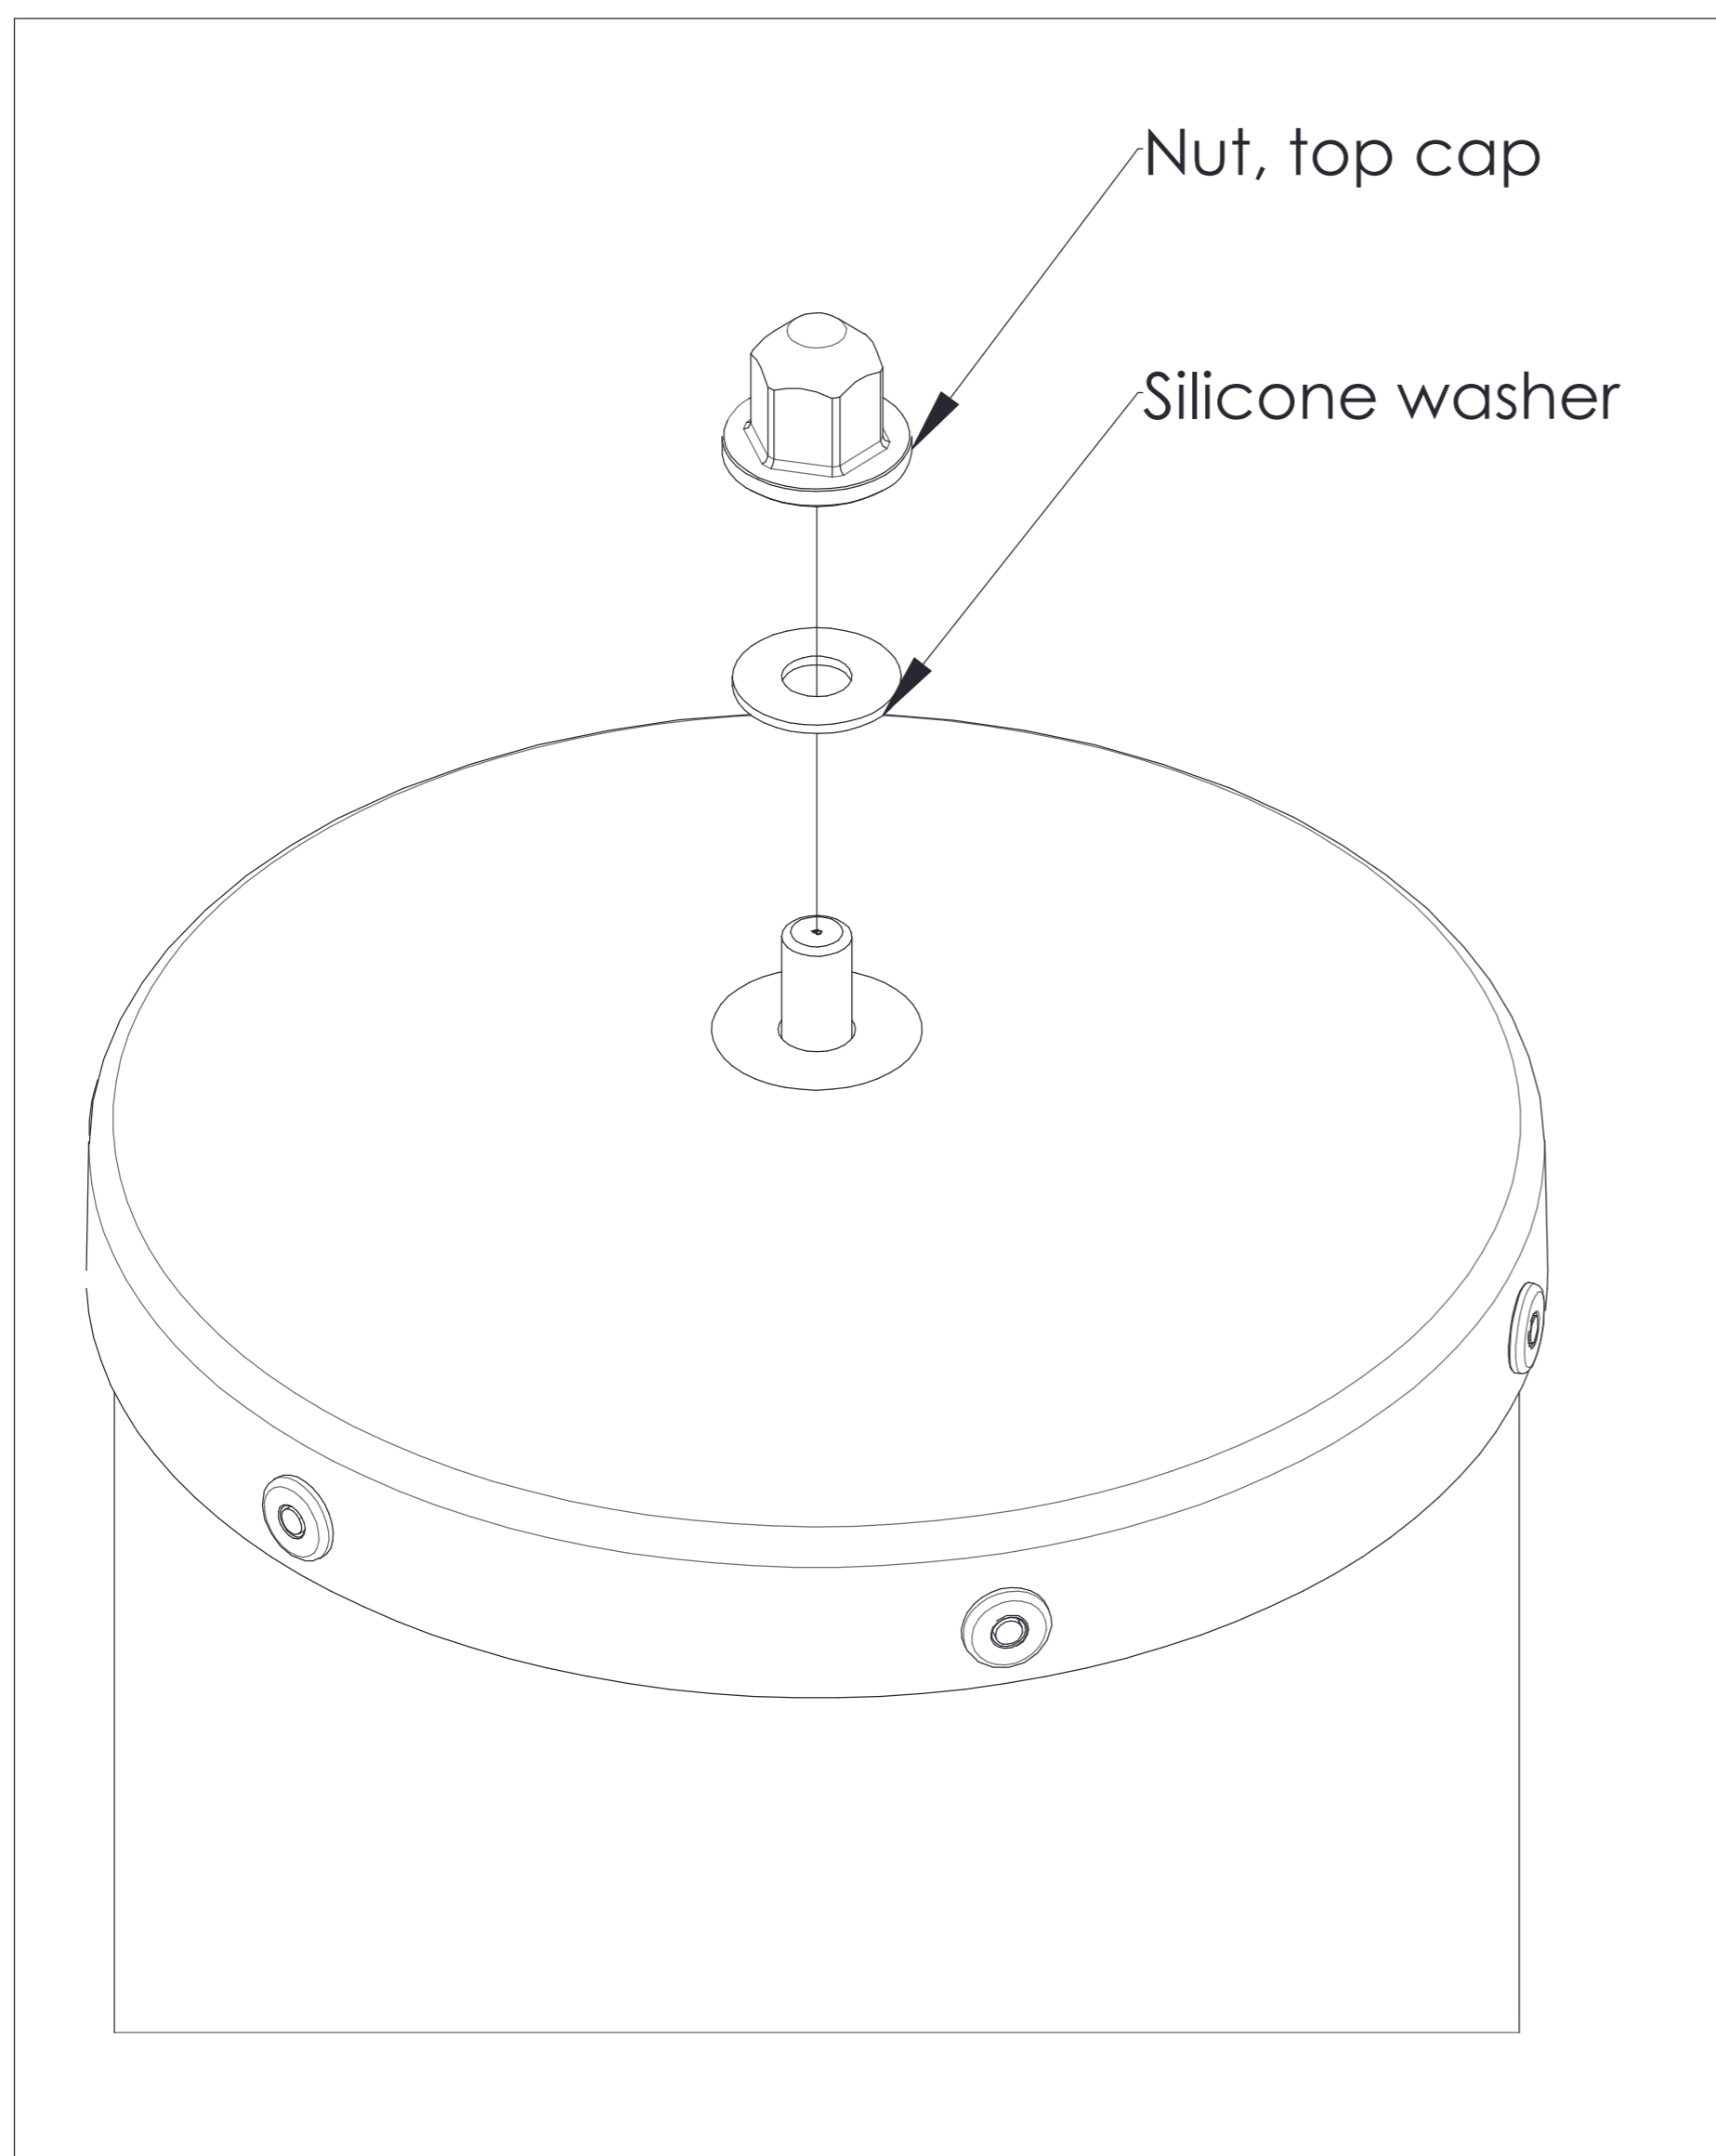

Figure 9
**Install silicone washer and nut, top cap on screw with torque 2~3Nm. (Figure 9)**